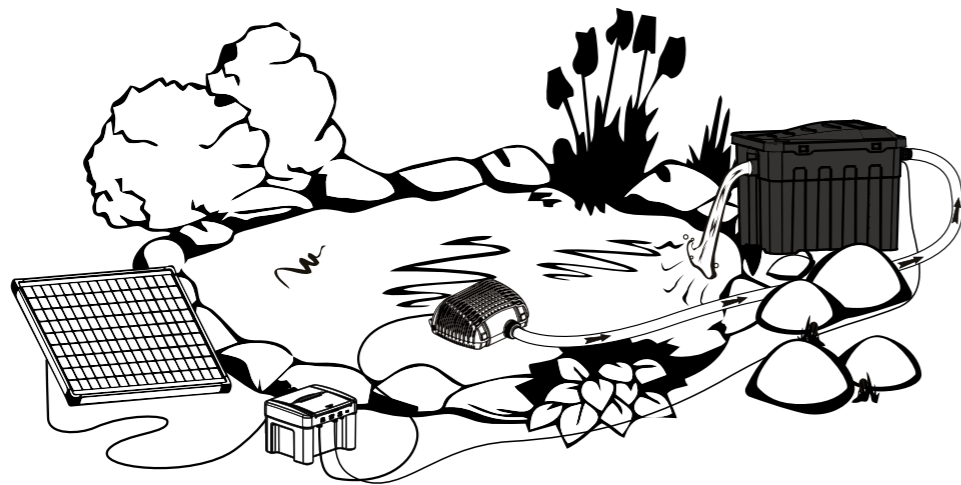
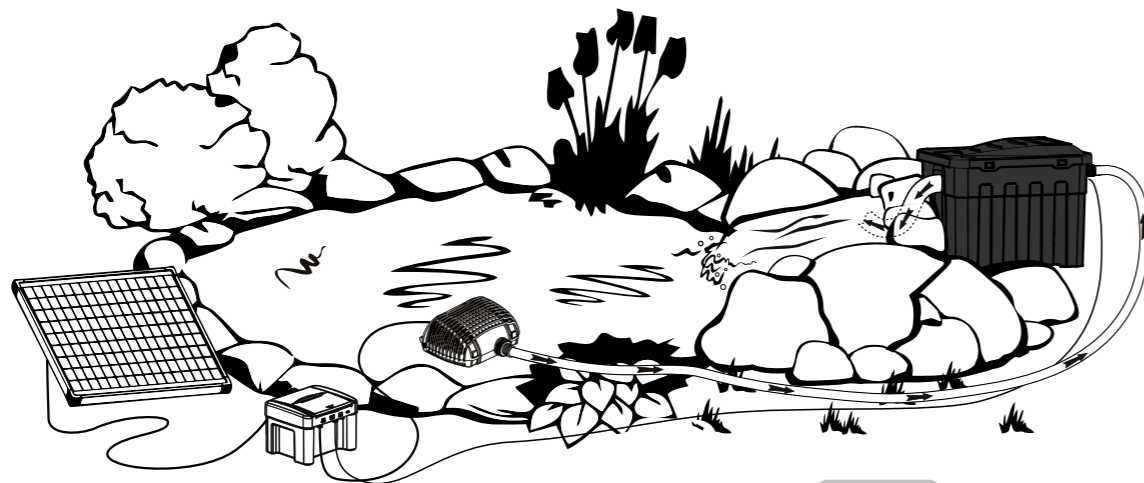

Figure 7
Figure 8
- 3) Place the filter right beside a pond with its discharge outlet pointing to the pond so that the filtered water flows back to the pond (Referring to **Figure 7**). Or, if applicable, connect the discharge outlet to the inlet of a waterfall or fountain, etc. with a hose of 2 inch diameter (Referring to **Figure 8**).